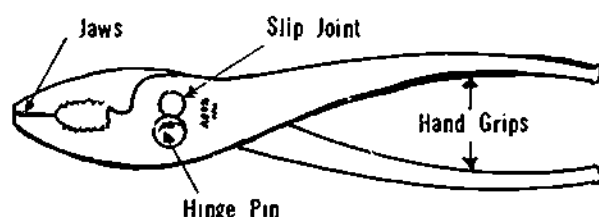

Figure 2-13. Combination Pliers
**Slip Joint Pliers** Slip joint pliers are the most common pliers used. The slip joint provides a wider opening of the jaws at the hinge for gripping material of larger diameter. Combination pliers are available in three sizes based on their overall length: 5", 6" and 10". Some combination pliers (Figure 2-13) are equipped with wire cutters, and better quality pliers are made of drop forged steel.